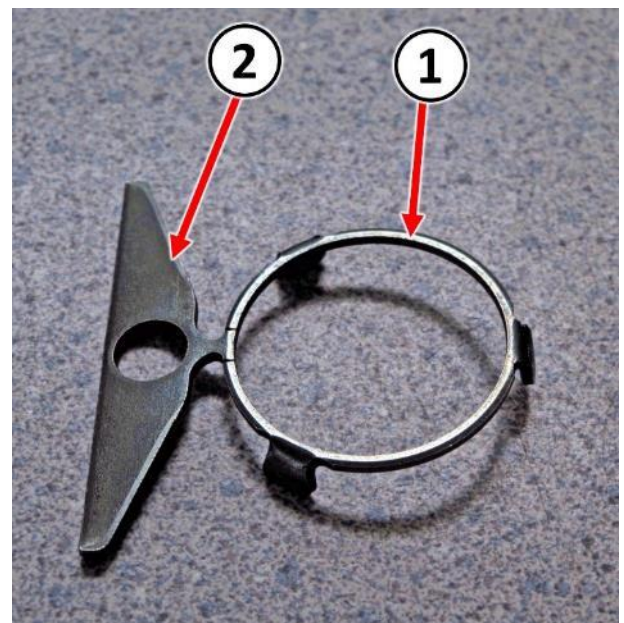

Figure 41 – Retaining Clip
68. Obtain a **NEW** retaining clip (1) then remove the shipping tab (2) (Figure 41).